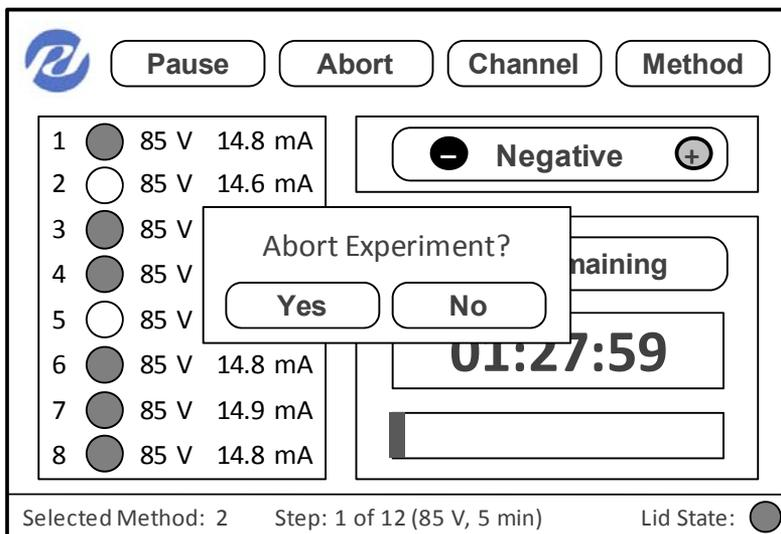

Figure 13. The GELFREE 8100 Fractionation Station. Abort Experiment.
5. To completely stop an experiment once it has been started, press the ‘Abort’ button on the Main Screen. A confirmation screen will appear (Figure 13). To abort, touch ‘Yes’ or touch ‘No’ to return to the Main Screen.